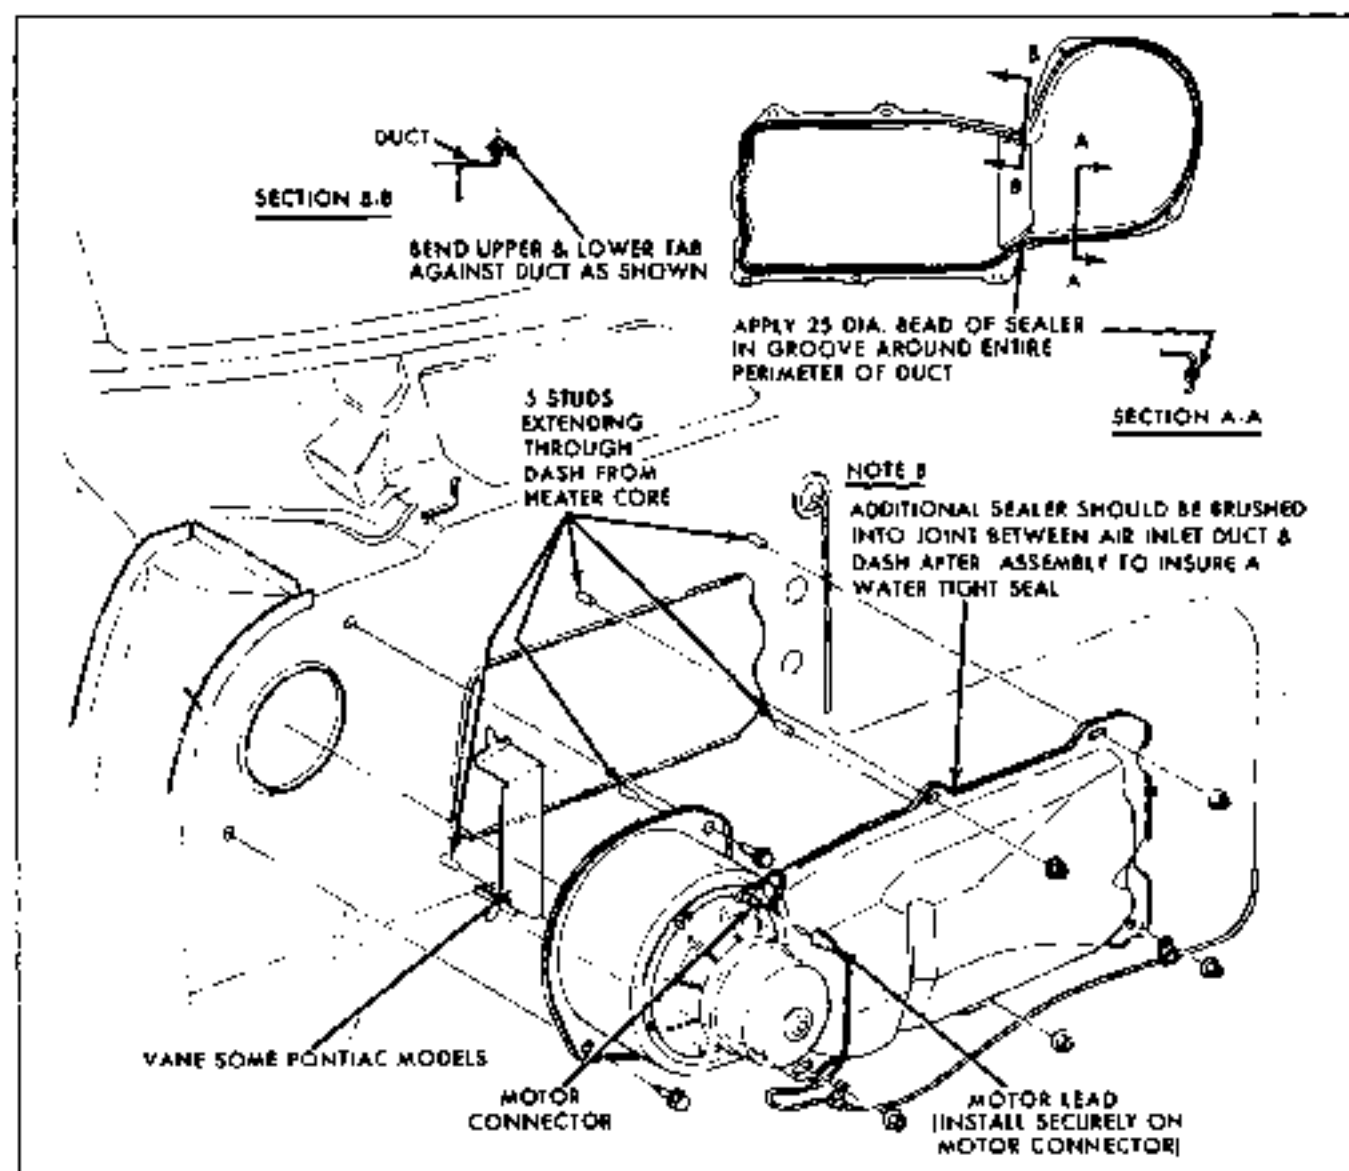

Fig. 1-7 Blower Motor and Air Inlet Duct Installation
2. Remove blower motor or duct retaining screws as required (see Fig. 1-7).
3. Remove (5) nuts from core case studs on the engine side of the dash (Fig. 1-7).